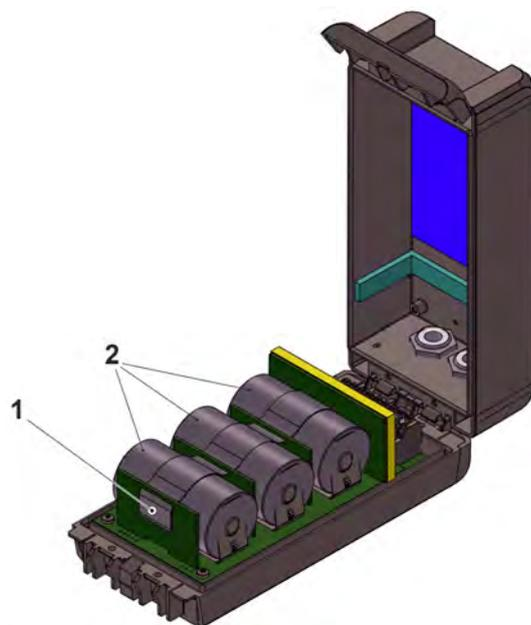

Fig. 47-1 Battery Replacement
2. Loosen the eyelet strap (Fig. 47-1 Pos. 1) to secure the batteries at the top and, if necessary, unthread it to remove the batteries (Fig. 47-1 Pos. 2).